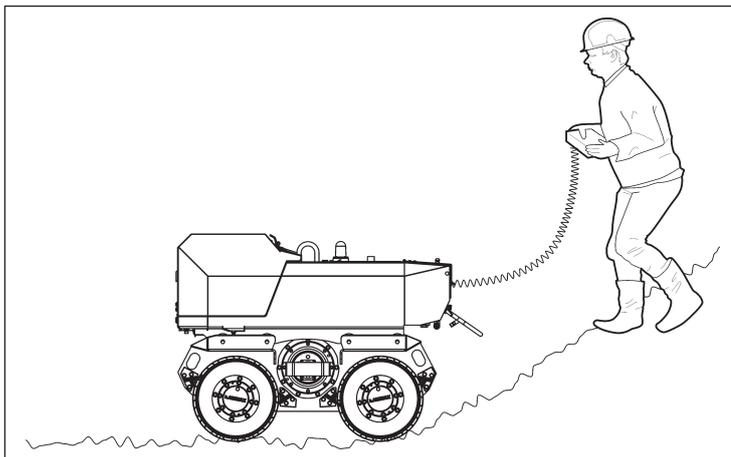

Fig. MB4: Machine at the bottom of an embankment
- ➔ Move the machine backward from below onto the base of the embankment (Fig. MB4).